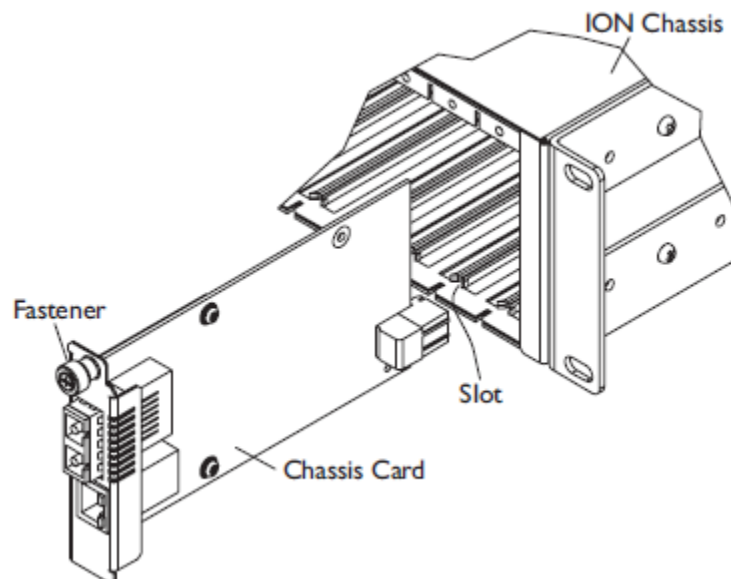

Figure 1: Chassis Installation
5. Push in and rotate clockwise the panel fastener screw to secure the card to the chassis (Figure 1).